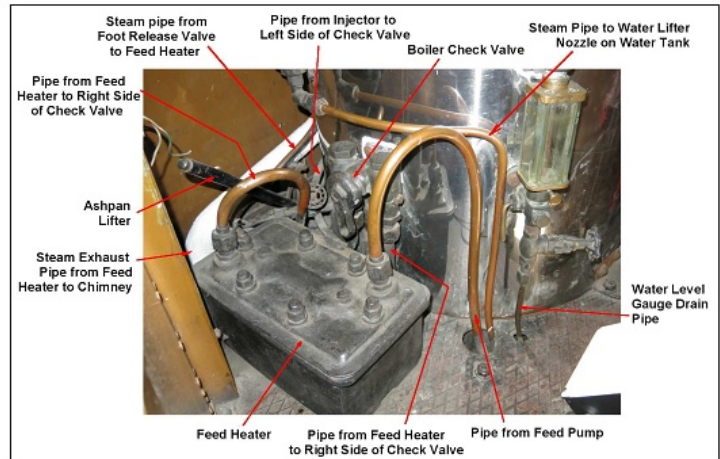

Figure 14
**6.3.1 Feed Water Heater.** Steam boilers do not like sudden changes in temperature. It was not good practice to heat or cool a steam boiler too quickly as this can lead to leaking joints. When feeding the boiler, by the mechanical pump, cold water would be pumped to the boiler. To avoid this situation the museum waggon is fitted with a feed water heater (Fig. 14). This device, used to pre-heat the water delivered to a boiler, is a worthwhile addition to a steam system as it increases the thermodynamic efficiency of the system, resulting in lower fuel consumption, and reduces the thermal shock to the boiler (ref. 18).